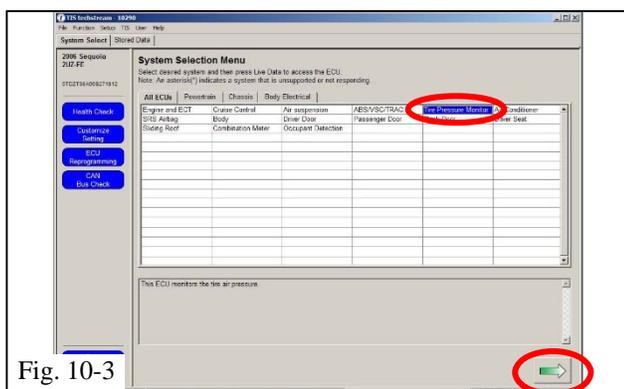

Fig. 10-3
- (f) Select **“Tire Pressure Monitor”**, then click the green arrow located on the bottom right (Fig. 10-3).